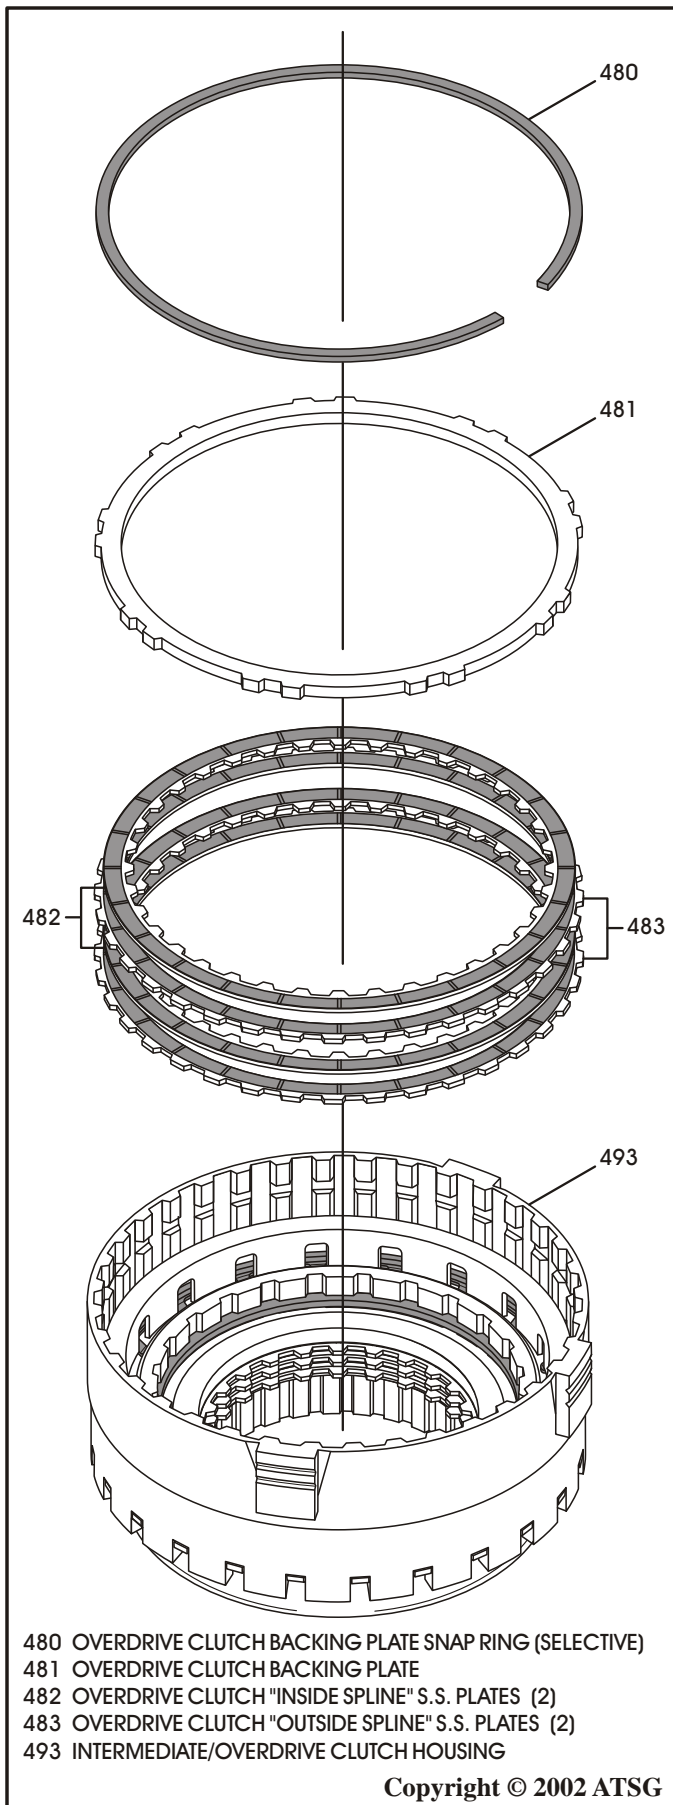

Figure 126
20. Install the overdrive clutch "single sided" plates beginning with an outside spline plate first and alternating with inside spline plates until you have installed 2 of each (See Figure 126).
Note: *Lined side must be installed facing up as shown in Figure 126. Clutch plate amounts may vary by model.*
21. Install the overdrive clutch backing plate, as shown in Figure 126.
22. Install the "Selective" backing plate snap ring, as shown in Figure 126, and ensure that snap ring is fully seated against the top of snap ring groove in the housing.